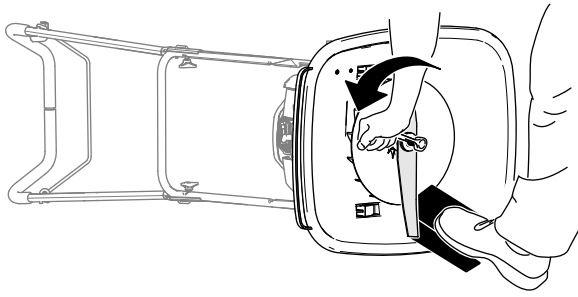

Figure 27
- Use a block of wood to hold the blade steady (Figure 27).
- Use the wrench provided with the machine to remove the blade by rotating the bolt counterclockwise (Figure 27).